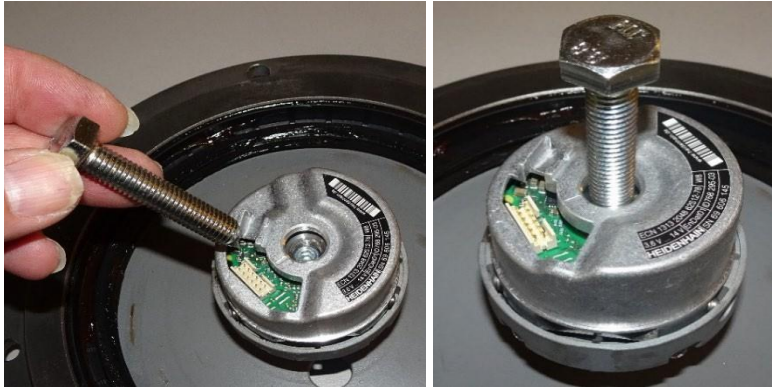

Figure 21
4. Insert a M10 bolt into the encoder housing. See Figure 21.
7. Insert a M10 bolt into the encoder housing. See Figure 21.